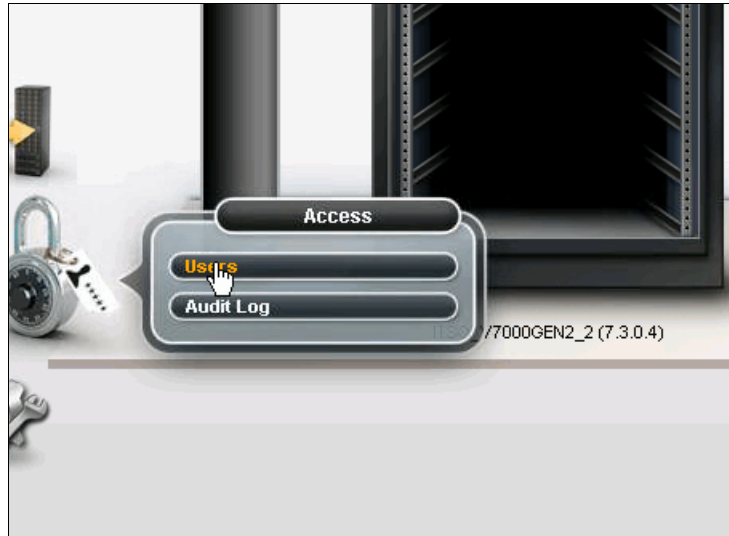

Figure 8-6 User section
1. Open the user section (Figure 8-6).